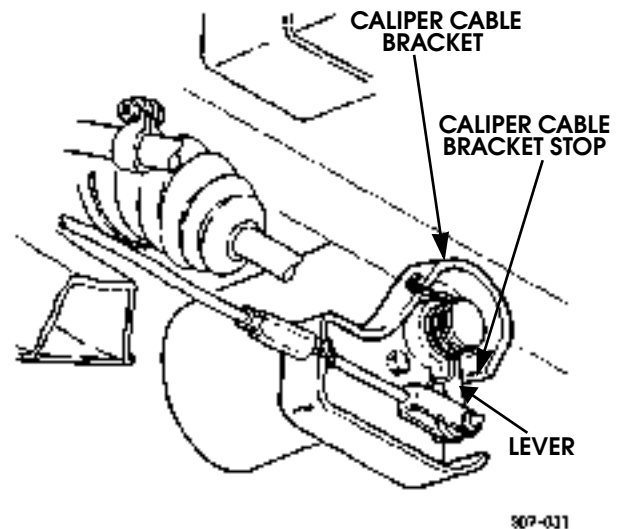

Figure 7-31: Caliper Cable Bracket Stop
7. Parking brake rod is properly adjusted if lever is in contact with caliper cable bracket stop (Figure 7-31).